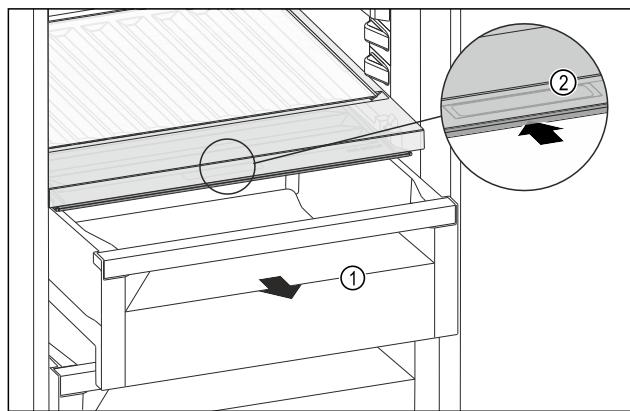

Fig. 133
- ▶ Pull out the drawer Fig. 133 (1).
- ▶ Grasp the recessed grip Fig. 133 (2) on the compartment lid and push the compartment lid backwards at the same time.